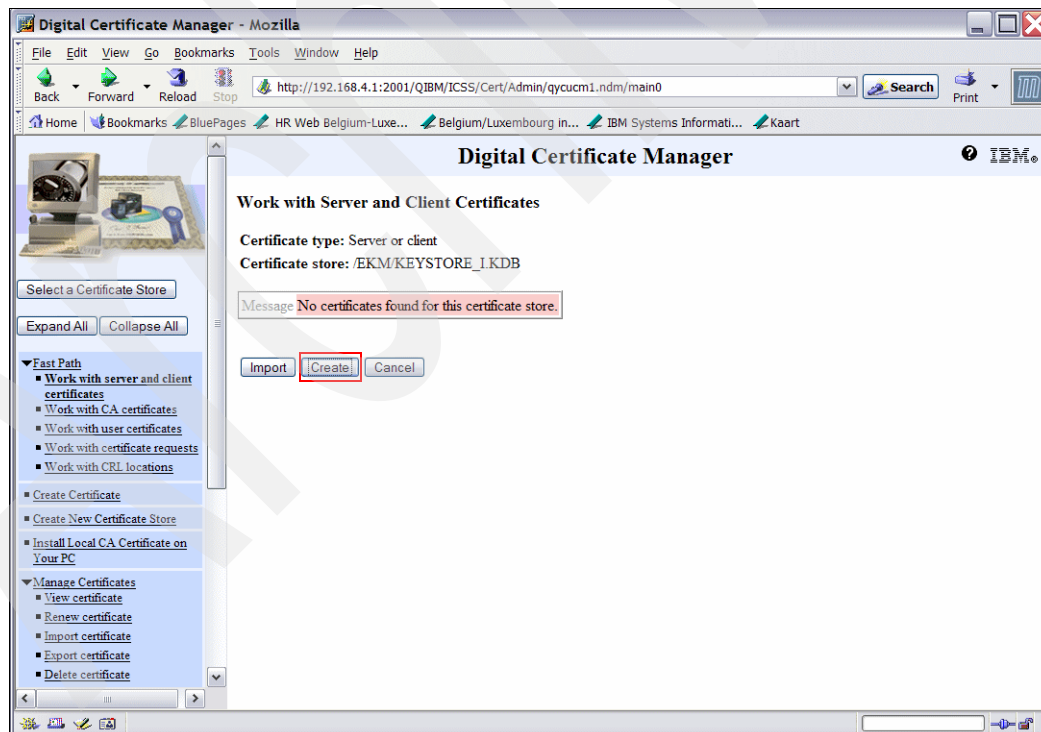

Figure 6-58 Work with Server and Client Certificates window
3. Select the **Work with Server and Client Certificates** option and click **Create**, as shown in Figure 6-58.